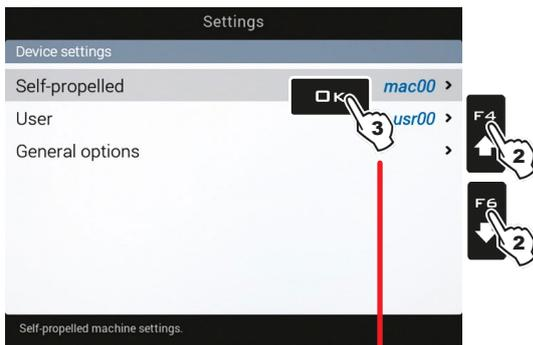
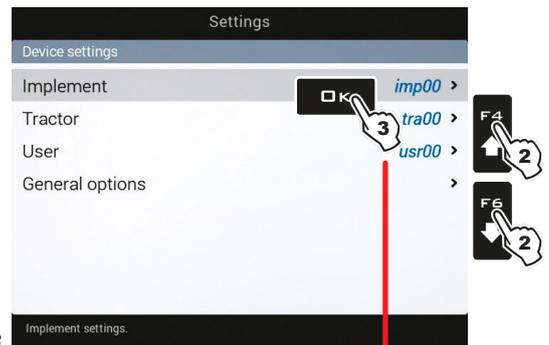

Fig. 42
Fig. 43
- 1 In the "Home" screen (Fig. 41) press **FB** to enter menu **Settings** (Fig. 42 / Fig. 43).
THE BASIC SETTINGS (CHAP. 4), AFFECT WHICH AND HOW MENU ITEMS ARE DISPLAYED, HENCE WHICH ADVANCED SETUP IT IS POSSIBLE TO CONTROL. A NAVIGATION SUMMARY IS AVAILABLE IN Fig. 42 AND Fig. 43.